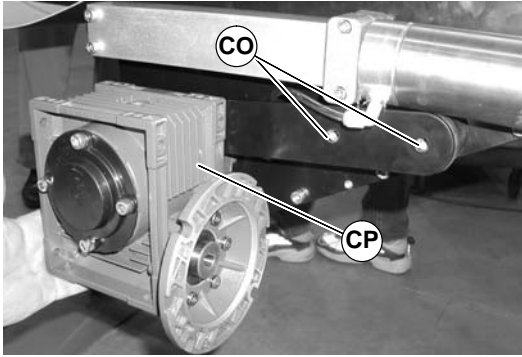

Figure 76
- Remove screws (CO of Figure 76) and remove gearmotor (CP) (NOTE: Gearhead shown with motor removed for clarity, motor can remain attached to gearhead).